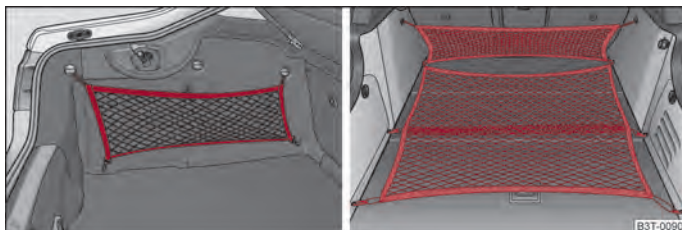
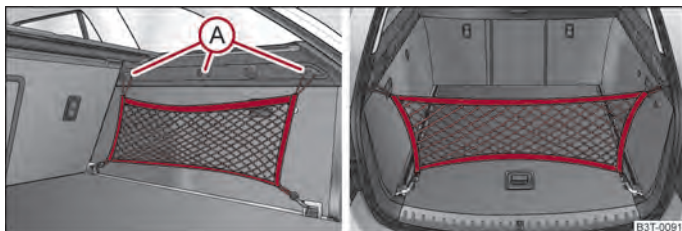

Fig. 67 Fixing net: Vertical pocket, floor fixing net and horizontal pocket
Fig. 68 Fixing nets (Combi)
Fixing examples for fixing net as horizontal pocket on the left → fig. 67 and → fig. 68, floor fixing net on the right → fig. 67 and vertical pocket on the right → fig. 67 and → fig. 68.
The hooks (A) → fig. 68, located on both sides of the luggage compartment, are only designed for fixing the fixing net.